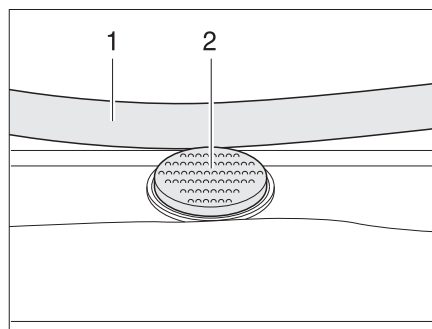

Fig. 85 Safety knob on the Heki skylight
- Press the safety knob (Fig. 85,2) and pull the bar (Fig. 85,1) down with both hands.
- Push the bar upwards with both hands until it is above the safety knob (Fig. 85,2).